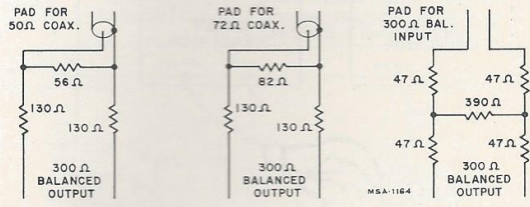

Figure 27—Sweep Attenuator Pads
- SWEEP GENERATOR..... Connect to antenna terminals through pad shown in Figure 27.
SWEEP GENERATOR	Connect to antenna terminals through pad shown in Figure 27.